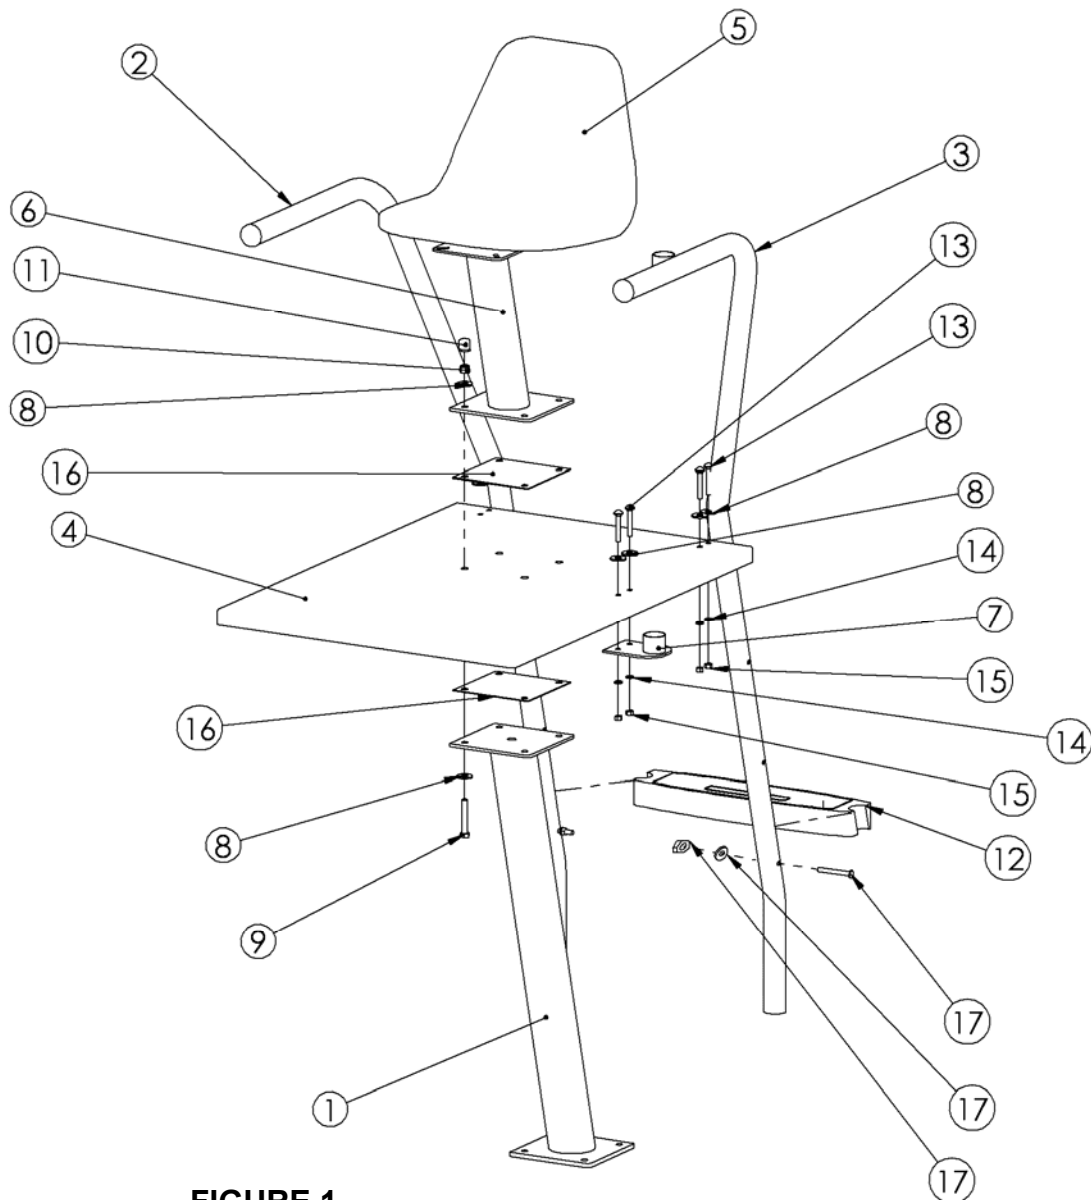

FIGURE 1
1. Begin by locating the main pedestal assembly as shown in **FIGURE 1**. Attach the main pedestal to the previously installed cage anchor using the (4) 1/2" hex head bolts and the four (4) 1/2" flat washers supplied with the anchor. **NOTE:** Do not tighten any hardware until final step.